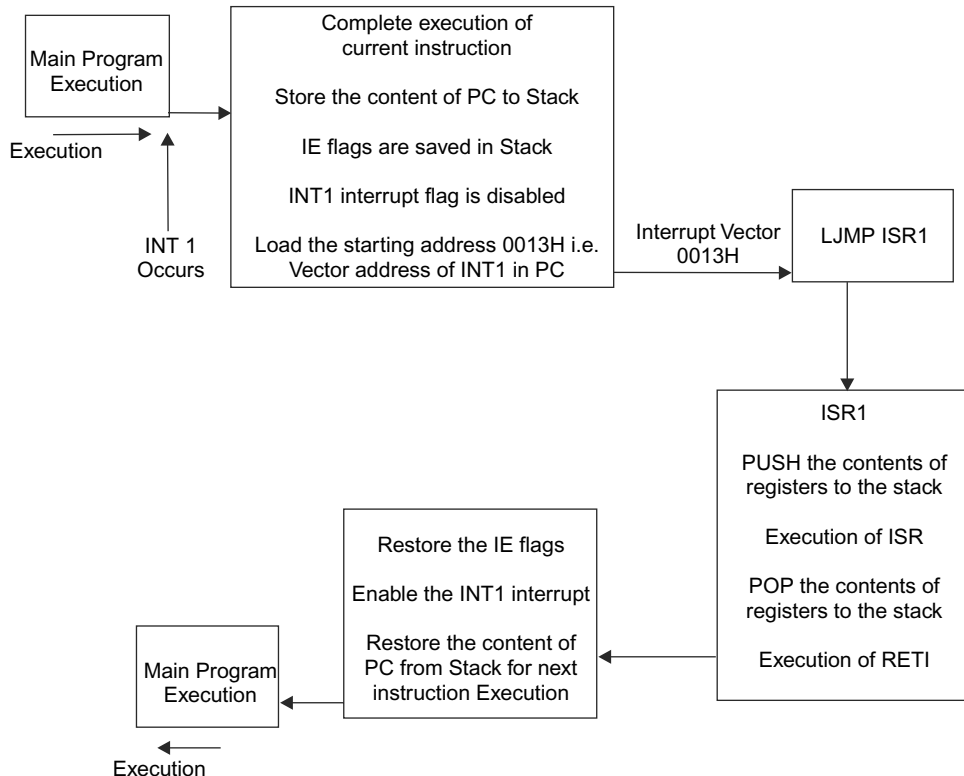

Fig. 13.53 The sequence of interrupt operation
The ISR is written by the programmer and this subprogram states what operation will be performed by the INT1 interrupt. During execution of ISR, initially PUSH the contents of registers to stack and execute the subprogram part. After execution of the subprogram part, it is required to restore or POP the contents of these registers. The last instruction in ISR is RETI (Return from interrupt) instruction. When RETI instruction is executed, 8051 should restore the content of IE register, enable INT1 flag and also restore the content of program counter (PC) from the stack. As the PC contains the address of next instruction, 8051 microcontroller starts to execute the next instruction of main program. Fig.13.53 shows the sequence of operations when the microcontroller receive an interrupt.